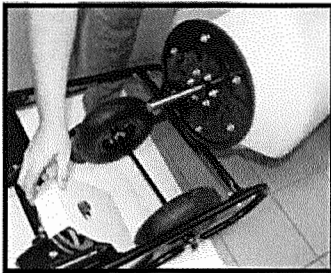

Fig.35: Remove mixer drum and place plastic motor guard over drive mechanism.
- a. Remove mixer drum from base assembly and place plastic guard for motor and v-pulley over drive mechanism. (Fig.35)